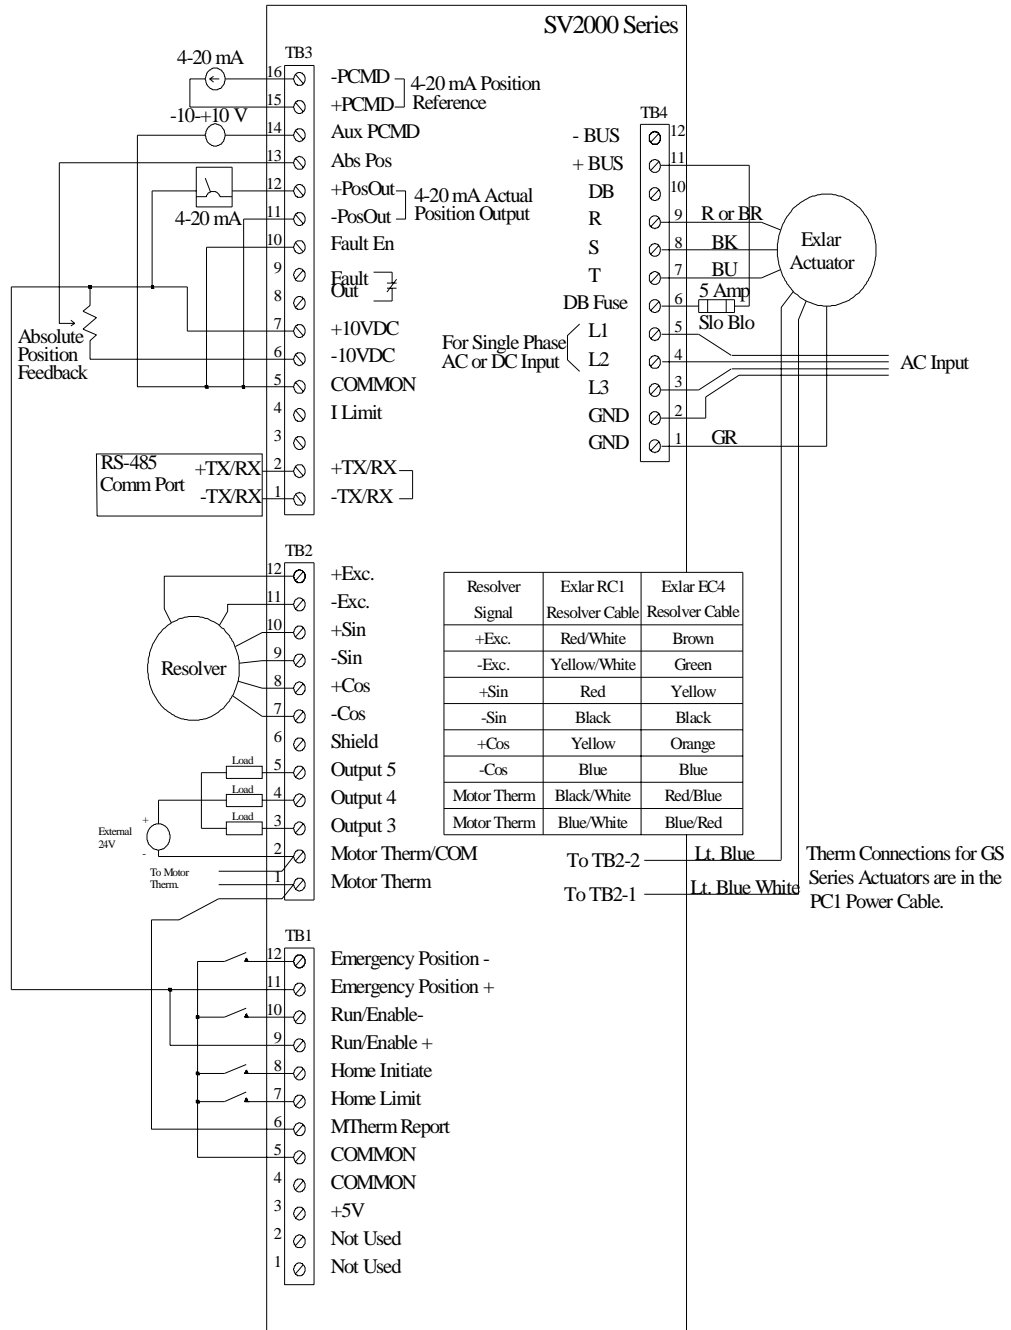

Figure 5.1 – SV2000 Typical Interconnect Diagram
1. Connect the AC Input to TB4-2, -3, -4, and -5 as shown in Figure 5.1.
- A. Connect the Exlar motor cable between the SV and the Exlar actuator as shown in Figure 5.1.